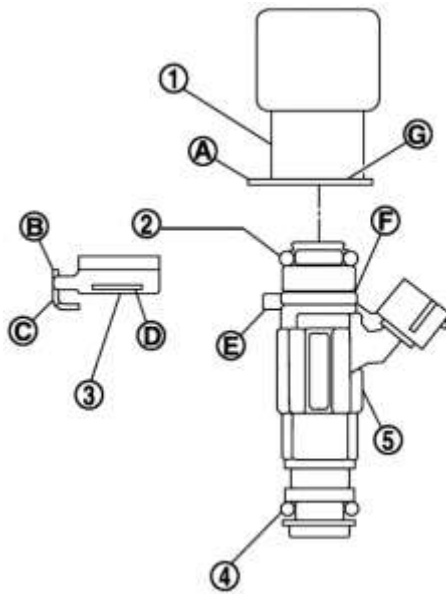

Figure 30
23. Open and remove the clip (3) securing each Fuel Injector to the Fuel Rail. These can be removed by pressing down on the tapered edge on each side to unseat them from the Fuel Rail or by pushing straight back away from the electrical connector. Use *Figure 30* below for reference.
25. Remove the clip ③ from the mounting groove ⑥ in each injector. Inspect the clips and replace them if necessary. *Figure 30.*